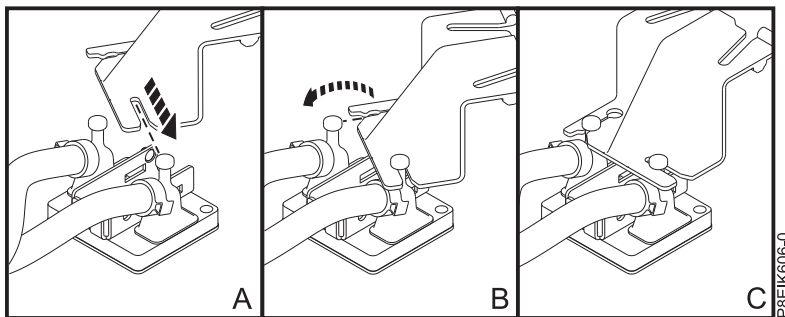

Figure 18. Inserting the cold plate pins into the holder
- b. Slide one cold plate pin into the holder as shown (A) in Figure 18. Push the pin into the slot only as far as is needed.
- c. Pivot the cold plate to slide the other pin into the holder as shown in (B) in Figure 18. Push the pin into the slot only as far as is needed.